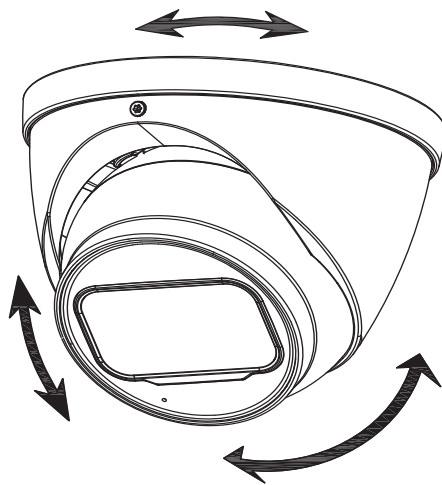

Figure 3–4
- Step 1** Find the mounting template sticker from the accessory pack and stick it to the mounting surface ①.
- Step 2** Drill screw holes (and the cable outlet hole if it needs to go through the mounting surface) on the mounting surface as indicated on the mounting template, then insert expansion bolts② from the accessory pack in the screw holes.
- For model A, hold the pedestal③ tightly and keep the device⑤ upward, rotate the fixing ring⑦ counterclockwise until you can detach it from above, and then take off the pedestal③.
- For model B and model C, loosen the locking screw⑨ with the supplied wrench⑧ and take the pedestal③ off.
- Step 4** Adjust the location of the pedestal③ according to cable outlet requirement (top out or side out), then pull the cable out through mounting surface or the side wire tray. Align the screw holes on the pedestal③ to those on the mounting surface, then put in and fasten the supplied self-tapping screws④ to attach the device⑤ to the mounting surface.
- Step 6** For model B and model C, put the enclosure⑥ back on and adjust the locking screw⑨ to hold it, leave some spaces enough for you to adjust the device⑤. Aim the lens to the ideal angle and adjust the focus until you get clear image (see Figure 3–4) and fasten the locking screw⑨.